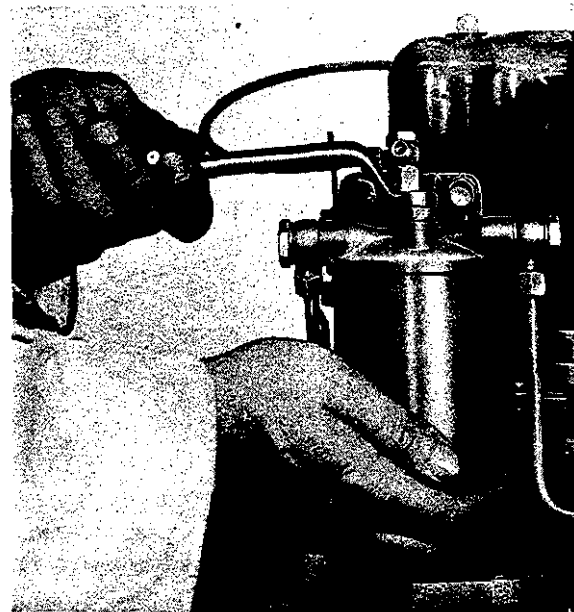

Fig. 24—Removing Filter Cover
1. Unscrew the setscrew in the centre of the cover. (See Fig. 24).